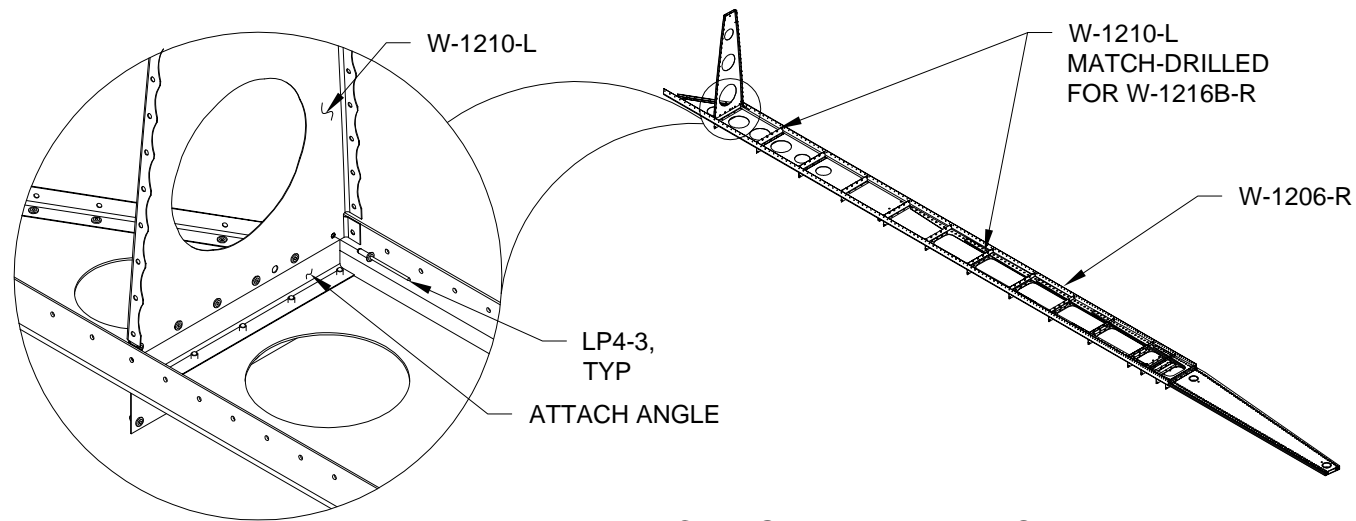

FIGURE 1: ATTACHING THE MAIN RIBS
Step 1: Lay the W-1206-R Spar Assembly on the work surface with the flange facing up. Select one of the forward trimmed W-1210-L Main Ribs and cleco then rivet to the furthest outboard attach angle on the spar assembly as shown in Figure 1.
Step 2: Cleco then rivet the forward trimmed W-1210-L Main Rib which was match-drilled to the W-1216B-R Hinge Rib to the next inboard attach angle on the W-1206-R Spar Assembly as shown in Figure 1.